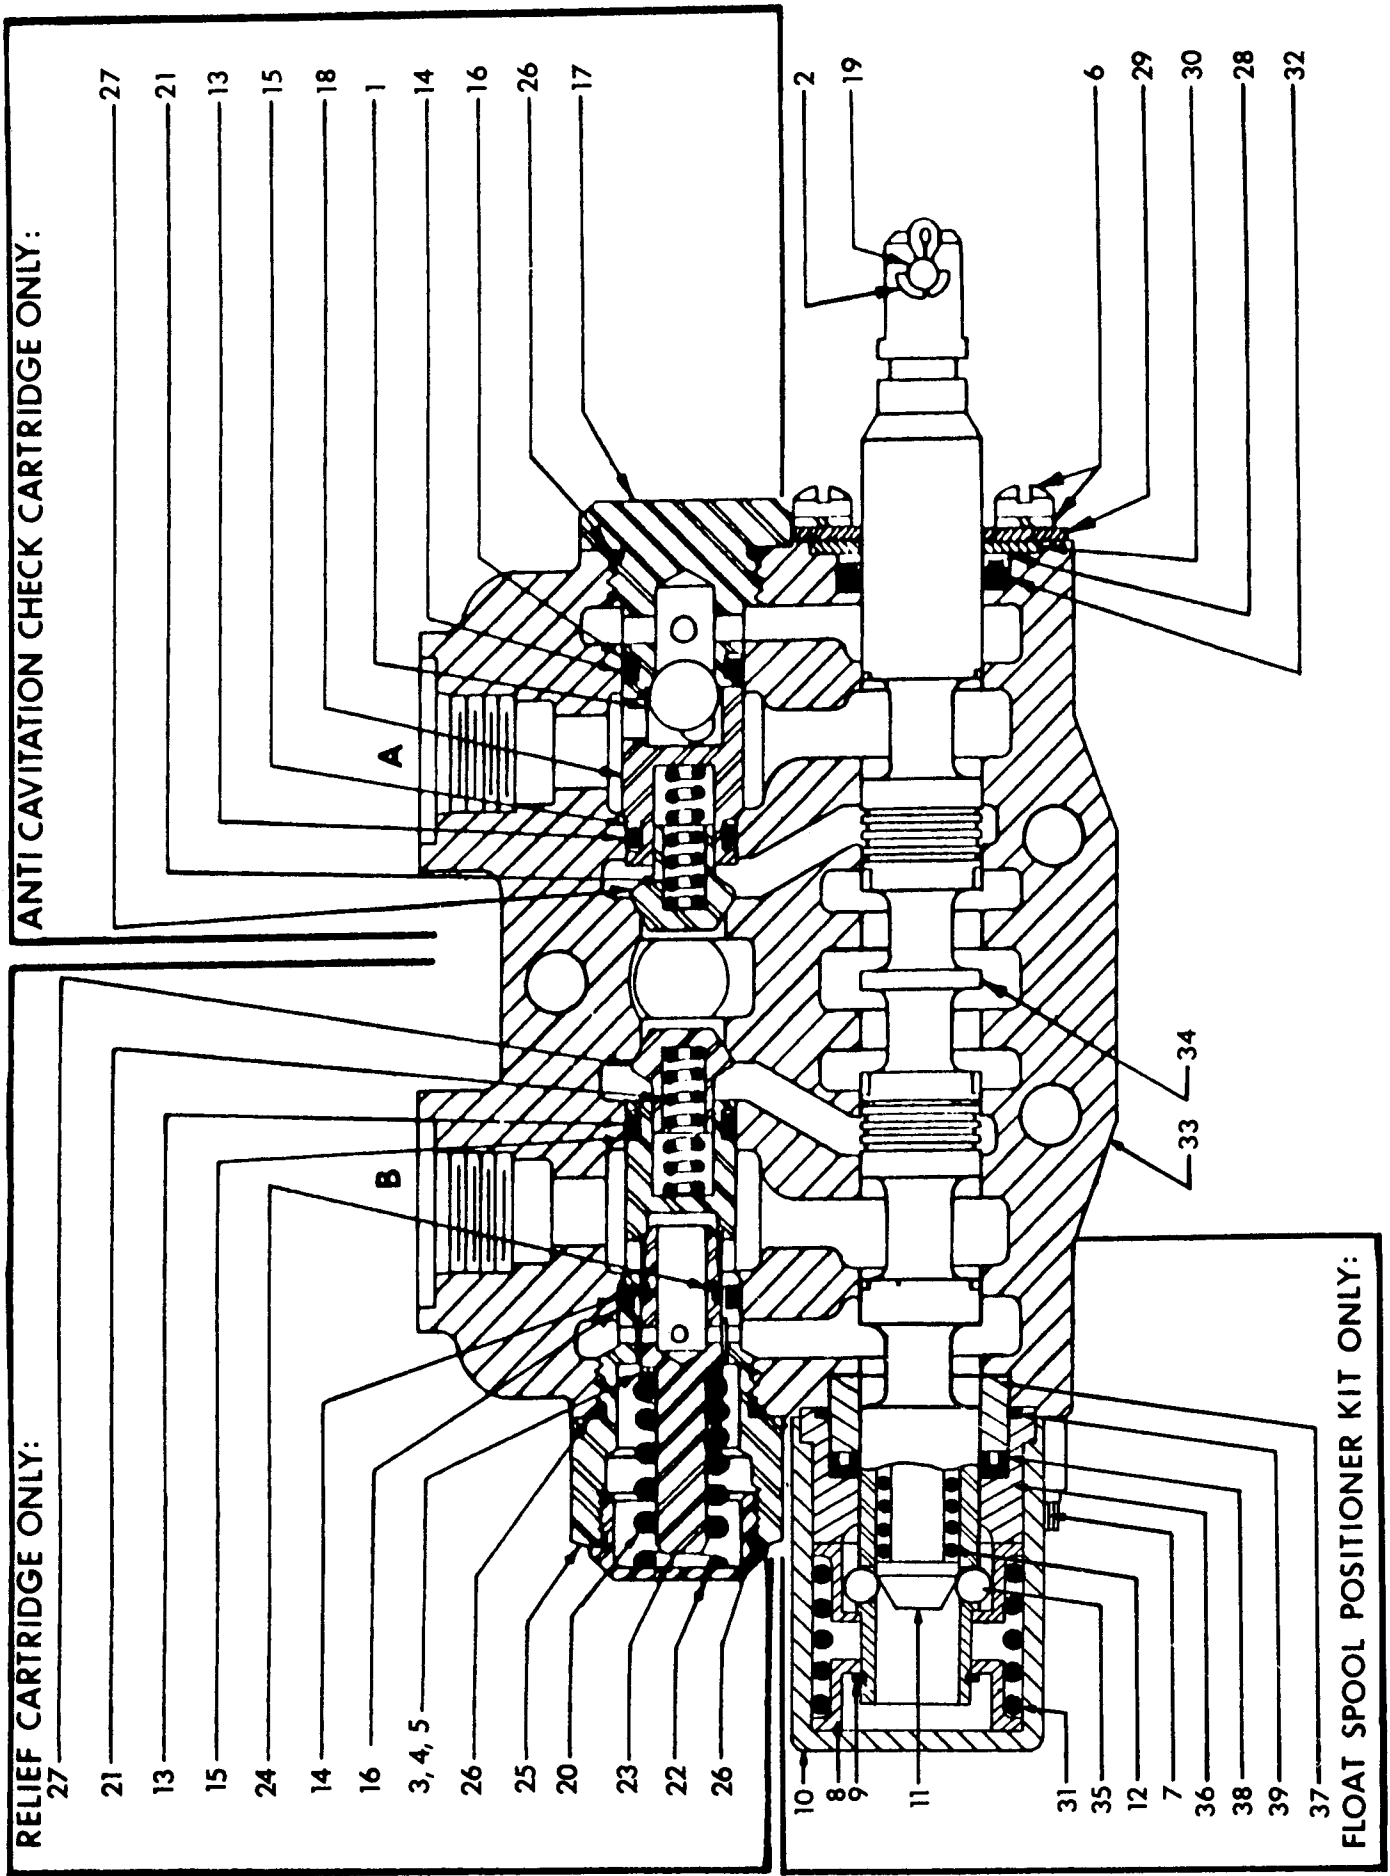

FIG 8
20. Bent spool.....replace with new spool section. See item 31 at the end and Fig 8, 9, 10.
23. Spool not moved to full stroke.....check travel, should be 5/16 inch either way or a total of 5/8 inch. See item 31 at the end.
25. Overload relief valve in the control.....clean relief carefully but do not disturb its pressure setting as it can not be field calibrated, or replace cartridge. See item 31 at the end and Fig 8 and 9.
28. Check poppet in the control valve.....clean check poppet(s) carefully, being sure that it moves freely with good spring action and seats properly or replace. See item 31 at the end and Fig 8, 9, and 10.
29. Damaged or worn spool seals.....replace spool end seals, see item 31 at the end and Fig 8, 9, and 10.
30. Check ball in anti-cavitation check.....clean anti-cavitation valve carefully, being sure that checks move freely and seat properly, or replace cartridge. See item 31 next, and Fig 8 and 9.
PARTS LIST - FIG 8